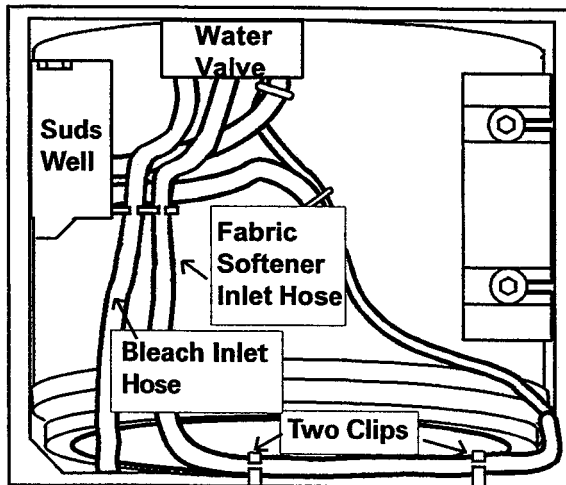

Figure 2-20
7. Reach up between the plastic shroud and the outer tub cover and locate the fabric softener inlet hose positioned into two clips on the front shroud support. Unhook the hose from the clips. Locate the suds well and unhook the hoses from the retaining clips on the well (Figure 2-20).